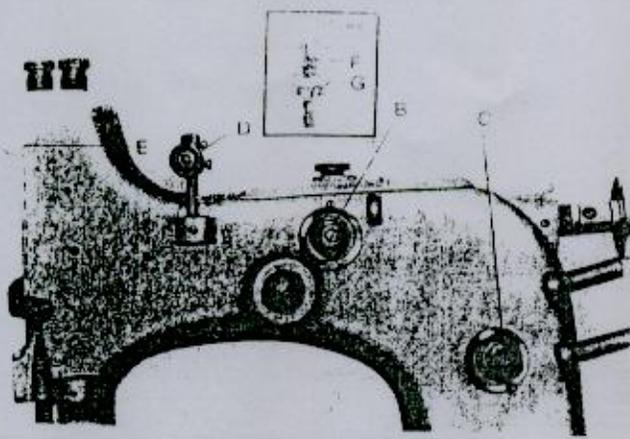

Fig. 10
The presser foot pressure of styles GK35-SE and GK35-0D can be adjusted by adjusting screw (A, Fig. 10) on the upper cover plate. When adjusting, loosen lock nut (C, Fig. 10), turn adjusting screw (A) to increase pressure, and turn out to decrease pressure. Retighten lock nut (C) after adjusting.
Thread tension is adjusted by thread tension assembly (B, C, Fig. 10). Tension of upper thread(B) is generally stronger than that of lower thread(C). Turn thread tensioner nut(B, C) in to increase the tension, turn it out to decrease the tension. If the stitch is still not good, should adjust the height of thread adjusting bar(D). The height of the thread adjusting bar(D) is at the same level with the thread eye of the needle bar connection in its highest position.